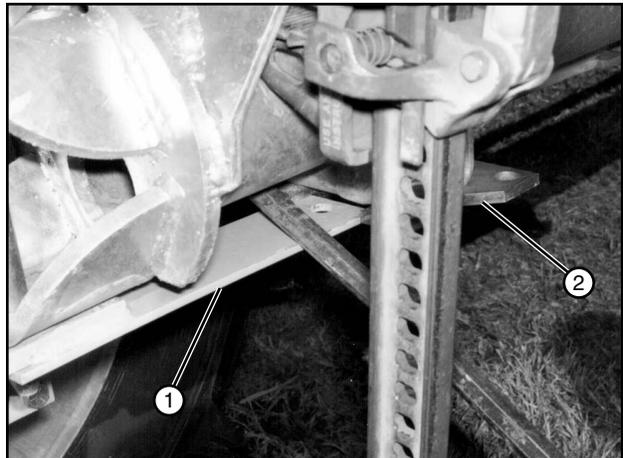

Figure 38-3 1. Steering Arm
7. Make sure the steering arm is latched in the latch plate. See Figure 38-3.